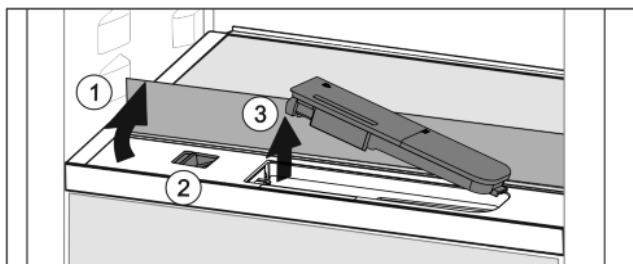

Fig. 38
- ▶ Lift the glass panel and fold to the back as far as it will go Fig. 38 (1).
- ▶ Slide the slider Fig. 38 (2) to the left.
- ▶ Remove the water tank Fig. 38 (3).